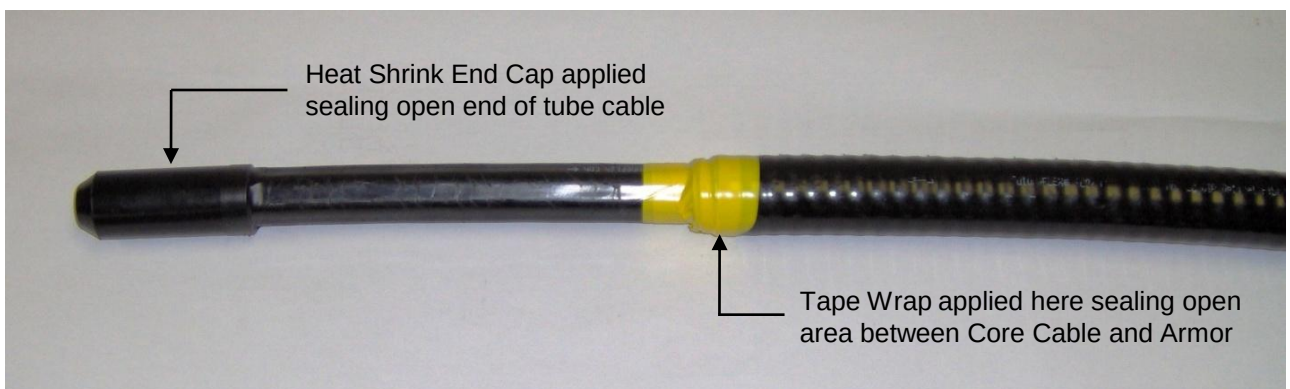

Figure 34
26.6 Refer to Sumitomo Recommended Procedure, *FutureFLEX Tube & Tube Cable Sealing Procedures*, SRP SP-F04-019. Re-seal the head end of the core cable to keep all forms of contamination out of the tubes during installation. Heat Shrink End Caps are the preferred sealing devices. **Refer to Fig. 34.** In wet, muddy, etc. installations, an alternative sealing method is to apply a liberal coating of a Silicone caulk (such as RTV or similar) into the open ends of the tubes and into the open areas between the tubes. Then wrap the core cable end with an appropriate tape (electrical, duct, etc.).